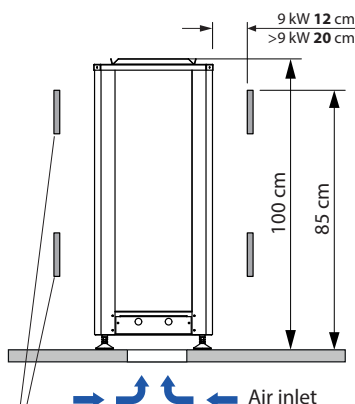

Fig. 1
When installing the sauna heater, make sure that the vertical clearance between the upper edge of the sauna heater and the sauna ceiling is at least 110 cm and the horizontal (side) clearance between the heater and cabin wall or other flammable material is at least 20 cm (9 kW - 12 cm) as shown on fig. 1.
- Provide a fresh air supply in the bottom area of the heater. The minimal size of the opening should be 300 cm². If an air supply opening in the sauna wall is not possible an air channel should be installed under the floor surface as shown on Fig. 1. The operation of the sauna heater without proper fresh air supply can cause overheating and lead to the damages.